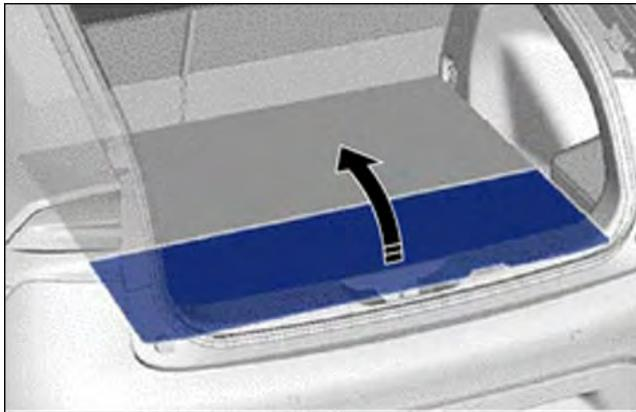

Figure 2c
- (b) Turn back the deck board assembly, as shown in Figure 2c.